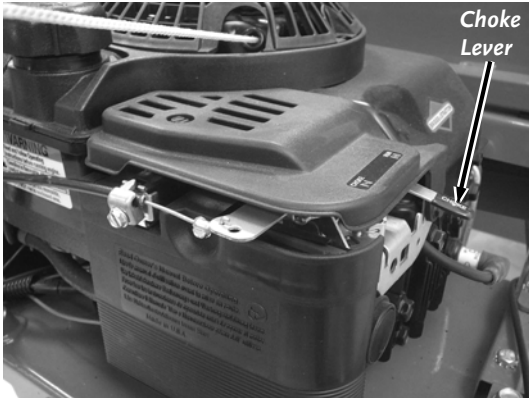

Figure 7
2. Set the Choke Lever on the Engine to the CHOKE position (to the RUN position if the Engine is already warm, **Figure 7** on page 13).
4. After the Engine starts, move the Choke Lever on the Engine (**Figure 7** on page 13) to the RUN position.
2. Set the Choke Lever on the Engine to the CHOKE position (to the RUN position if the Engine is already warm, **Figure 7**).